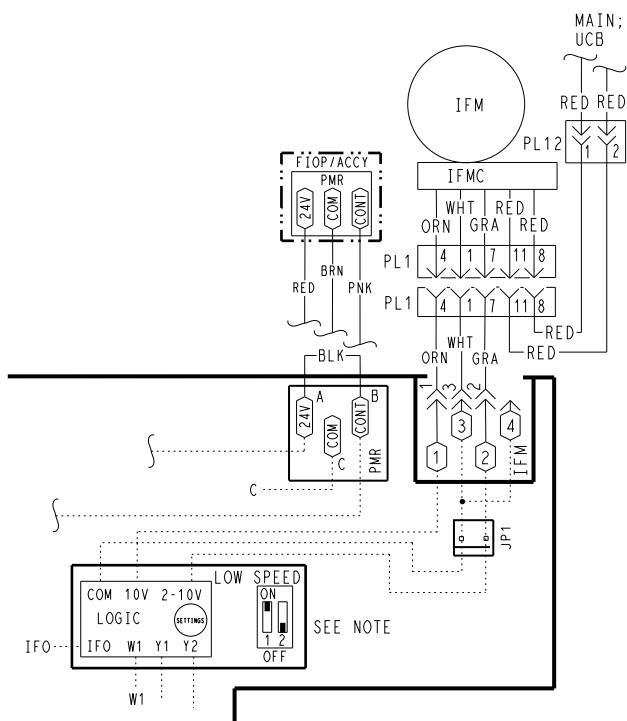

Fig. 12 – Supply Fan Control Wiring Diagram
8. Check for proper motor control voltage signal of 9.7 vdc to 10.3 vdc at IFM-1 and IFM-3 on Unit Control Board (UCB). See Fig. 12.